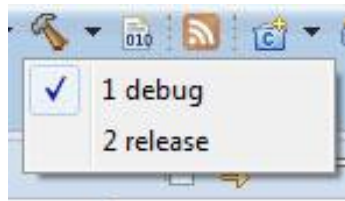

Figure 3 - Build targets
3. Choose build target by clicking on the arrow to the right of the “hammer” in toolbar, see Figure 3. When the target has been selected the project will be built. If target has previously been selected it is enough to click on the “hammer” icon.